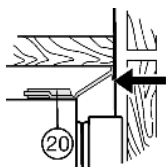

Fig. 16
- ▶ If necessary, align the equaliser trim *Fig. 16 (20)* by moving it parallel to the ceiling of the unit. It must not project.